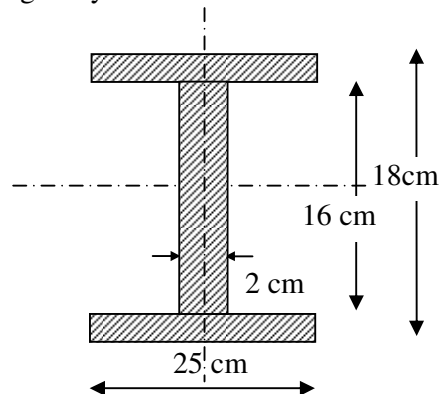

Figure 2
4. Find the Center of gravity of the I Section Shown in Figure 2.